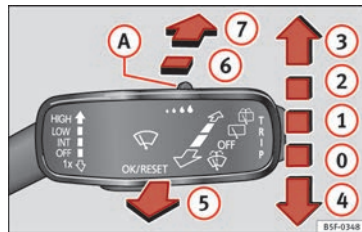

Fig. 122 Windscreen wiper lever: rear window wiper.
- Press the lever forward to position **6** »» Fig. 122. The wiper will wipe the window approximately every 6 seconds.
- Press the lever fully forwards to position **7** »» Fig. 122. The wiper and washer operate at the same time. The rear window wash system will function as long as you hold the lever in this position. »»